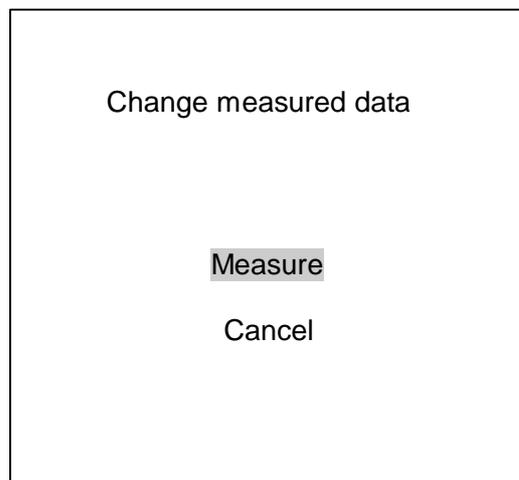

Figure 16: Repeating the last measured point
- Select *Measure* from the displayed menu (Figure 16). The measurement of the last point is repeated.